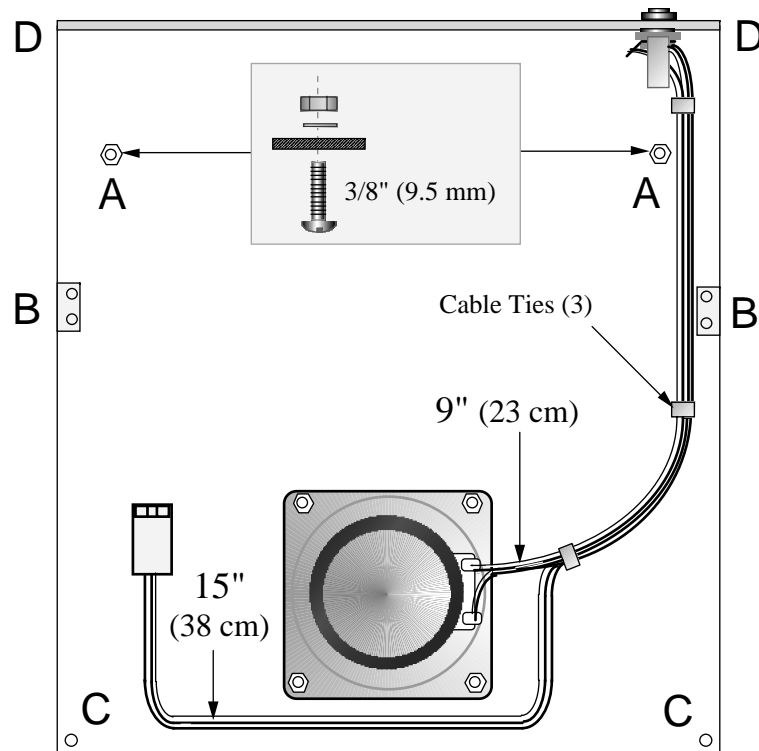
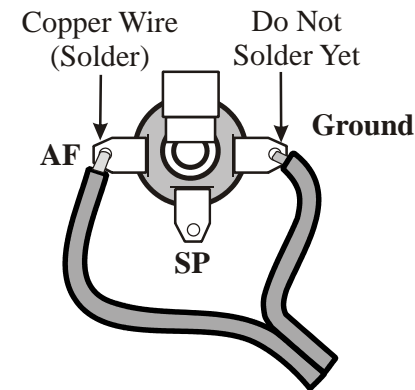

Figure 7-1
Figure 7-4
- Place the top cover upside down as shown in Figure 7-1, with its rear panel facing away from you. The illustration shows how the speaker, 2-conductor cable, external speaker jack and other hardware will be attached to the top cover.
- Place #4 fibre washers (black) at each of the top cover's four speaker mounting holes (Figure 7-1). Trim the corners of the grille cloth so it just fits between the fibre washers, not touching them.
- Locate the two holes marked **A** in Figure 7-1. Use two 4-40 x 3/8" (9.5 mm) screws to fill these holes, securing them with #4 lock washers and 4-40 nuts. (The holes are for the battery option.)
- Install 2-D fasteners at the two locations marked **B** in Figure 7-1. The 2-D fasteners should line up exactly with the edges. Use two chassis screws per 2-D fastener.
Install the external speaker jack in the EXT SPKR hole. Orient the jack as shown in Figure 7-1 and Figure 7-4, with the "AF" tab nearest the inside of the top cover. (**Caution:** Mis-identification of the three tabs could result in a ground short.)
Insert the copper wire into the pin 1 position of a two-pin housing as shown. Insert the other wire into the pin 2 position. Connect the other end of this cable to the external speaker jack as shown in Figure 7-4. The copper wire must be connected to the "AF" lug of the speaker jack. Solder only the copper wire.
Use three cable ties at the points shown in Figure 7-1 to hold the speaker cables in place. (Save the fourth cable tie for use with the supplied RF probe.) The ties should be pulled tight. Trim any excess cable tie length.
- Remove the masking material from the two top-cover mounting holes marked *C* in Figure 7-1.
- Cut through and peel off about 1/2" x 1/2" (12 x 12 mm) of masking material from around the top-cover mounting holes marked *D* in Figure 7-1. These holes are in the far corners of the top cover's rear panel, corresponding to screws *1* and *2* in Figure 7-6.